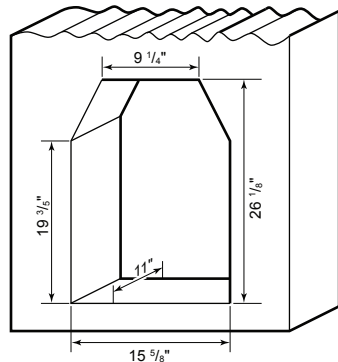
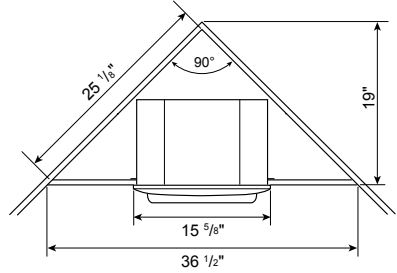

Figure 7 - Rough Opening for Wall Installation
Figure 8 - Rough Opening for Corner Installation
1. Frame in rough opening. Use dimensions shown in Figure 7 for the rough opening. If installing in a corner, use dimensions shown in Figure 8 (page 11) for the rough opening. The height is 19", which is the same as the wall opening above.